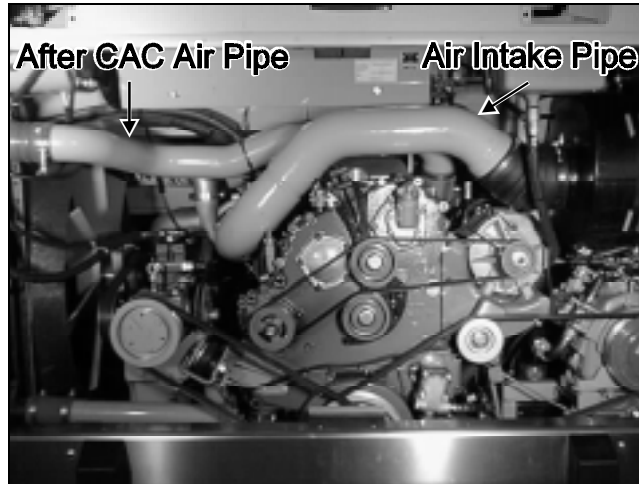

FIGURE 1: ENGINE COMPARTMENT
2. Remove air intake pipe (refer to fig. 1).
3. Remove the after CAC (Charger-Air-Cooler) air pipe (refer to fig. 1).